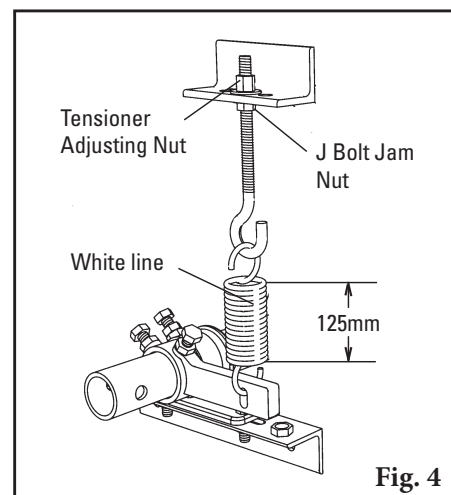

Fig. 4
4. **Reset the correct blade tension.** Loosen the J bolt jam nut and turn the tensioner adjusting nut until the coil is 125mm long. Measure the length of the white line on the spring (Fig. 4). Complete on both sides of cleaner, if required. **NOTE:** The given spring length measurement is a starting point only. Actual length for correct cleaner blade tensioning may vary by cleaner width.